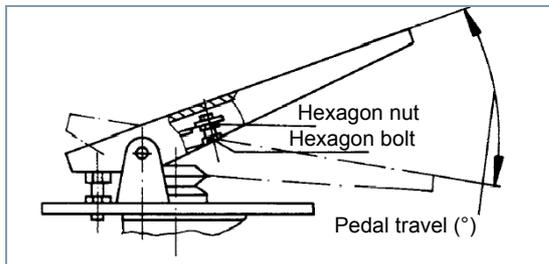

Fig. 9 Pedal
- Release hexagon nut (see fig. 9).
- Screw hexagon bolt up to the pedal and counter it with hexagon nut (M = 4 Nm), see fig. 9.